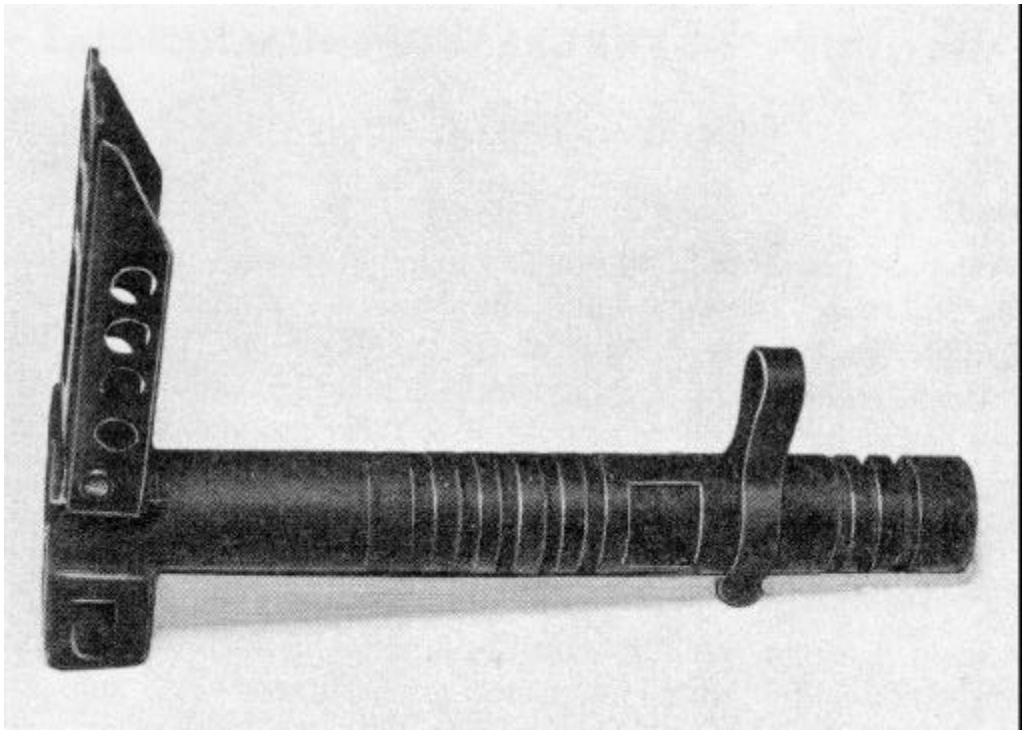

Figure 4-1     Grenade Launcher With the Positioning Clip Attached
1. The main launcher assembly consists of a barrel-like tube 17.1 cm (6 3/4 inches) long which is fitted with a folding leaf-type sight and a retaining catch that locks onto the bayonet stud of the rifle. A wing-type retainer spring prevents the grenade adapter from falling off the launcher. The launcher weighs about 340 grams (12 ozs). See Figure 4-1.